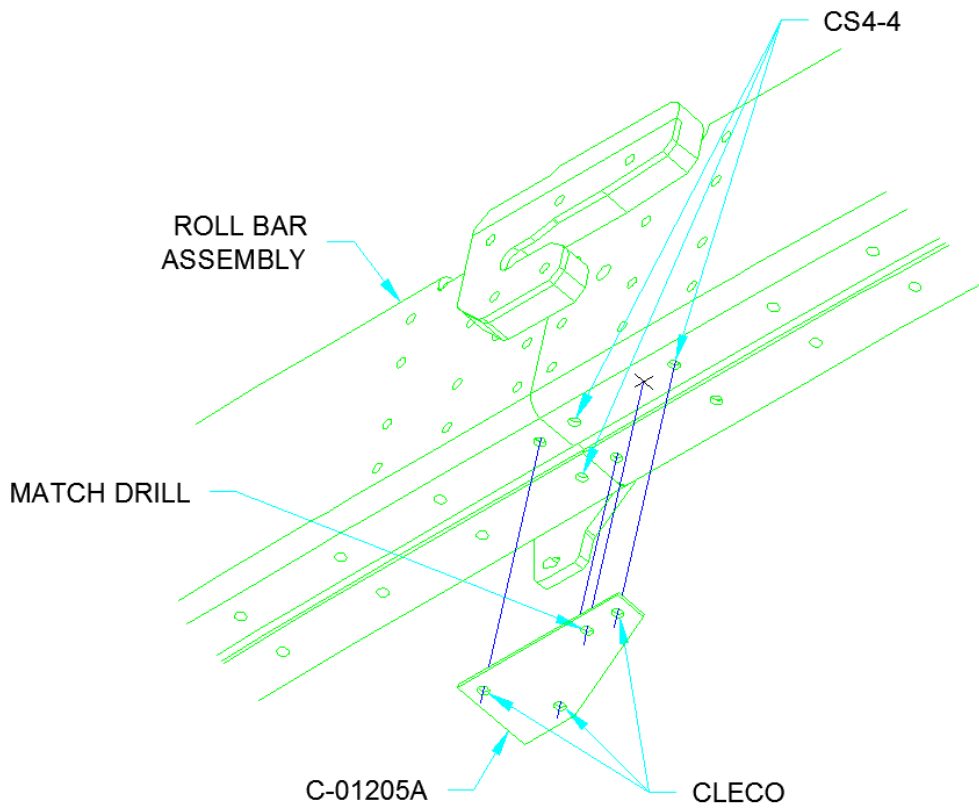

**FIGURE 4:** CANOPY LATCH INSTALLATION
Step 4: Chamfer the inside of BUSHING-AL.509X.625X.281 allowing it to sit lower on the WD-01218-1 Canopy Latch tube as shown in Figure 4.
Step 5: Install the WD-01218-1 Canopy Latch, called out bushing, C-671 Plastic Washer and C-656 Canopy Handle on the WD-1219 Canopy Frame as shown in Figure 4.